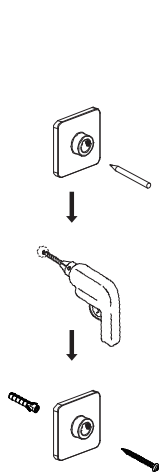

Figure 8
- b) Install the wall holder ⑯ on the marked position (Figure 8). Cover the thermostatic shower bar to prevent the dust. Connect the pipe connector ⑤ to the wall holder and use the Allen key to secure (Figure 9).